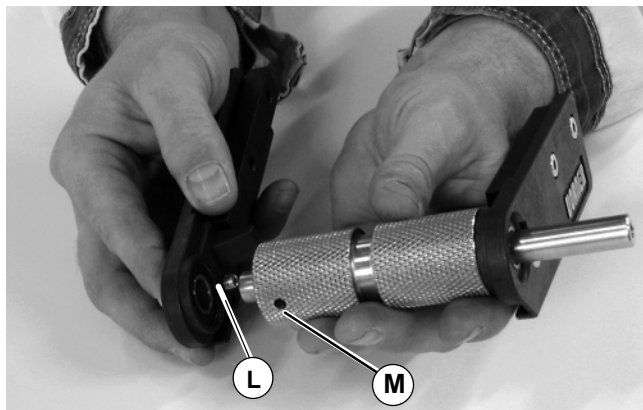
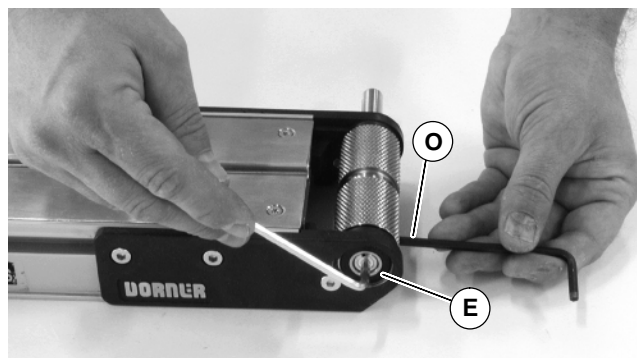

Figure 11
Figure 14
12. With bearing installed in head plate, press bearing onto non-drive shaft (L of Figure 11).
15. With 4mm hex key wrench, tighten pulley taper screw (E) to 75 in-lbs (8.5 Nm). Steady pulley with second hex key wrench (O of Figure 14) inserted into pulley hole (M of Figure 11).